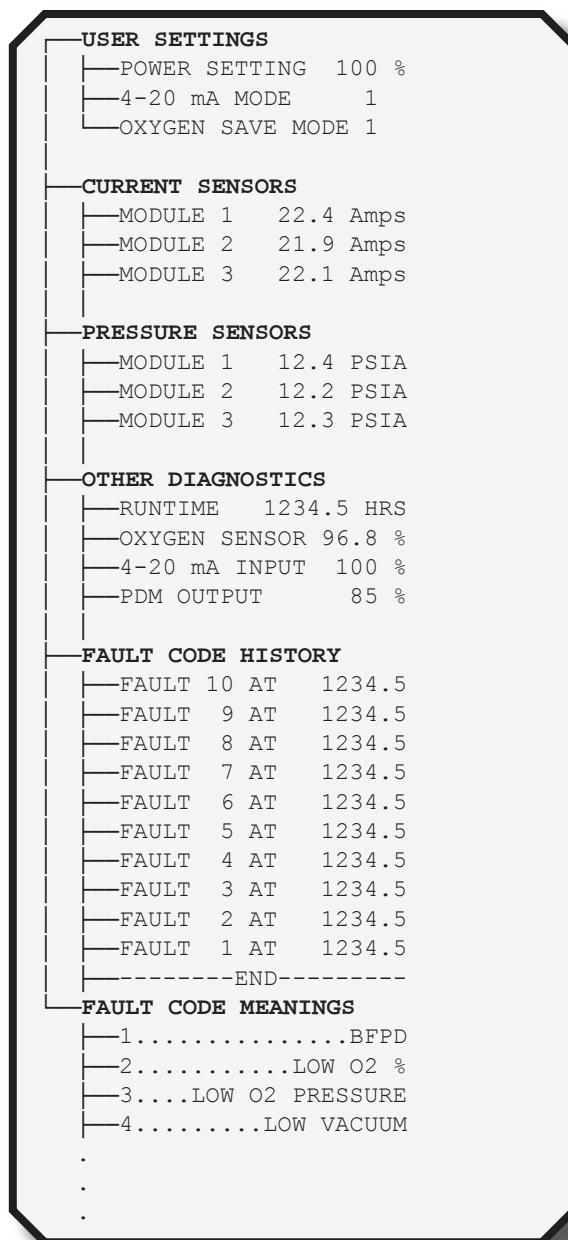

Figure 3b. Diagnostics and Settings Menu Tree
- c. **Diagnostics and Settings Menu** - The Diagnostics and Settings menu consists of six main folder items as shown in Figure 3b. Each folder contains user settings or diagnostic information. Use the UP/DOWN arrow keys to scroll to the desired folder and press the ENTER key to open the folder. Use the ESC key to exit a folder. Table 6 describes the key functions in this mode.